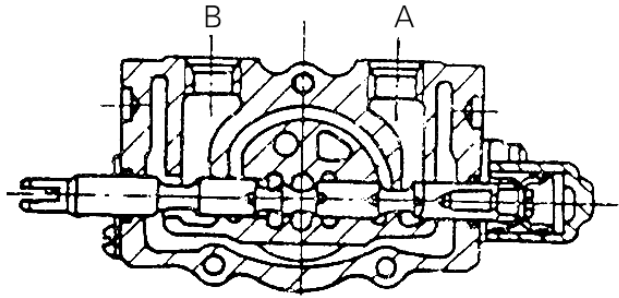

Fig.9-4
(3) Drawing-out of spool (See Fig.9-4)